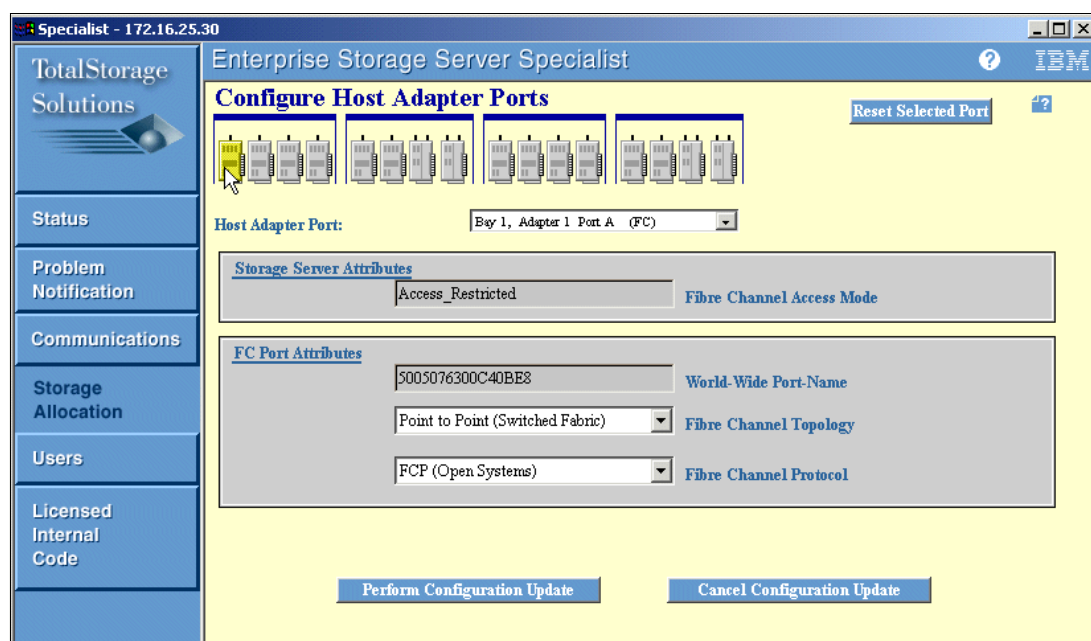

Figure 3-16 Configure Host Adapter Ports window
6. Go to the Configure Host Adapter Ports window (Figure 3-16). Configure the host bay ports in the ESS if you haven't already. Select the port or ports. For Fibre Channel Topology, select **Point to Point (Switched Fabric)**. For Fibre Channel Protocol, select **FCP (Open Systems)**.